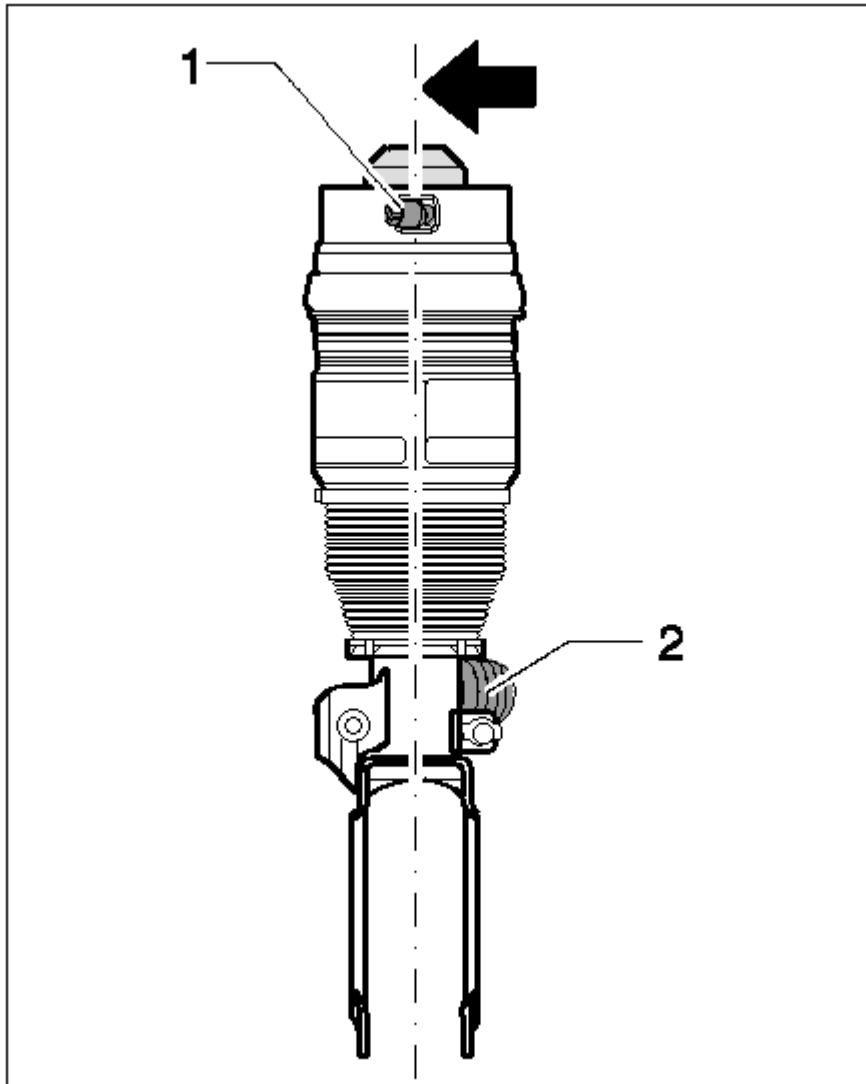

Fig. 46: Residual pressure retaining valve
6. Fit and align the air spring. While doing so, the residual pressure retaining valve -1- must be located exactly at the imaginary axis of symmetry -**Arrow**- of the air-spring strut. The residual pressure retaining valve must be facing in the opposite direction to the CDC valve. See **Fig. 46**.